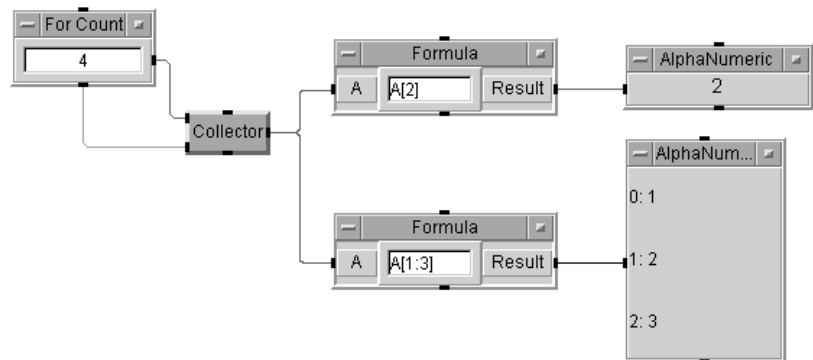

Figure 127 Extracting Array Elements with Expressions
- 6 Run the program. It should look like Figure 127.